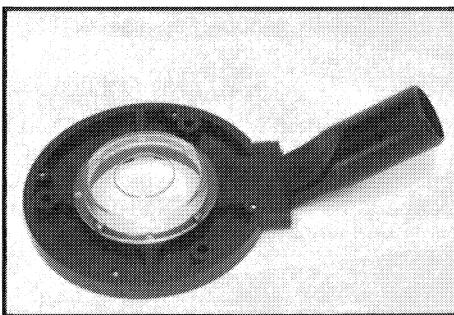

Fig. 3
- Use two #8-32 x 1/2" screws (from hardware package), to assemble the hose connector to the vacuum base (see Fig. 3).